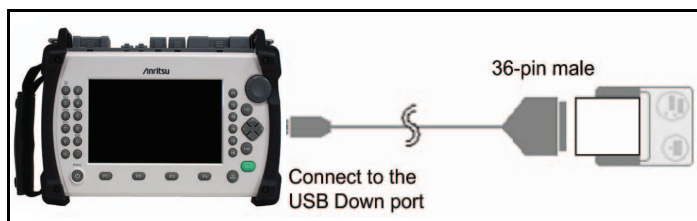

Figure 8-15: Connecting the BL-80R11 Printer
Connect the MT9083 Series to the BL-80R11 printer using a USB printer conversion cable as shown below in Figure 8-15.
1. Connect the BL-80R11 printer to the MT9083 Series as shown in Figure 8-15, and then power up the printer.